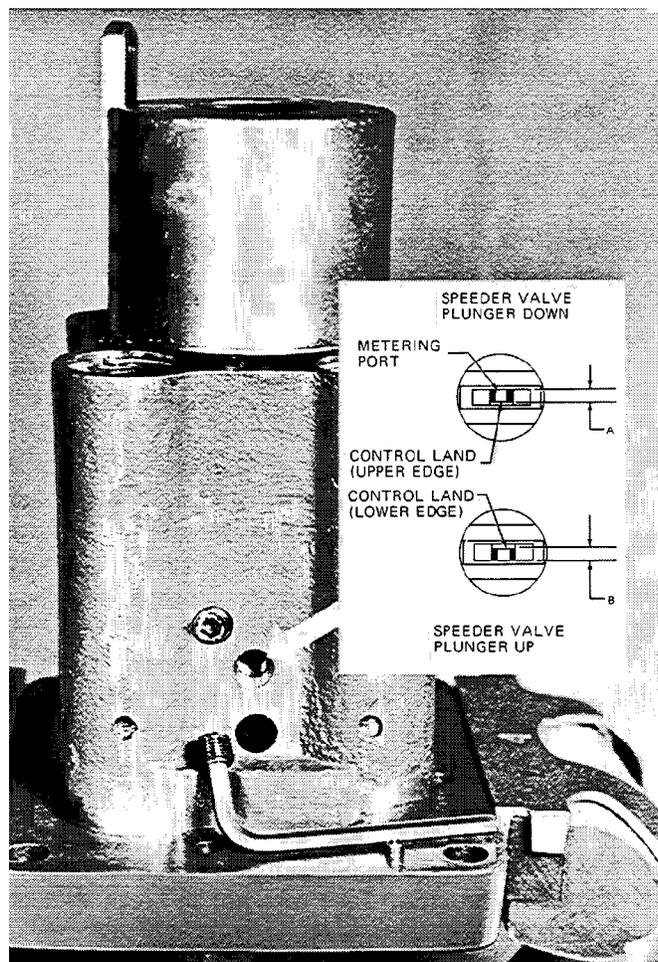

Figure 5-10. Centering Speeder Valve Plunger
5. After satisfactorily completing steps 3 and 4 above, install cotter pin (304) in speeder valve plunger pin (305).
- a. Remove the plug from the controlet so that the control land may be observed (see Figure 5-10).
- c. Using a flashlight, observe the position of the upper edge of the control land on the speeder valve plunger with respect to the metering port in the bushing. Note the amount of port opening (see Figure 5-10, A).
- d. Hold the speeder rod in contact with the toes of the flyweights while pushing the flyweights to their outermost position. Observe the position of the lower edge of the control land with respect to the metering port. Note the amount of port opening (see Figure 5-10, B).